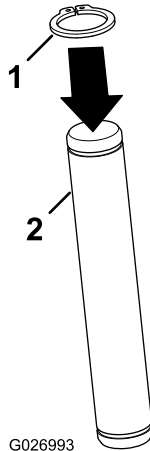

Figure 27
1. Install 2 snap rings (1-1/8 inch) onto the ends of the 2 pins (1-1/4 x 7-5/8 inch) as shown in Figure 27.